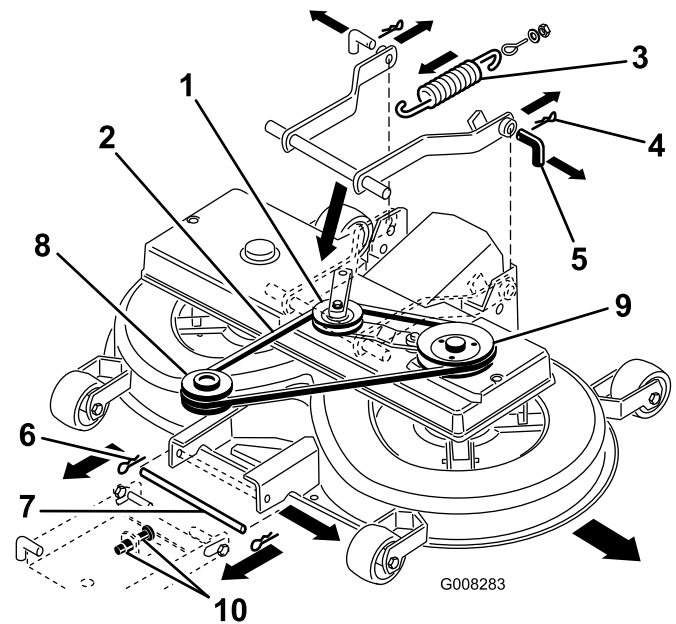

Figure 43
8. Pull the idler arm assembly in and remove the V-belt from the pulley (Figure 43).
9. Disconnect the spring from the engagement lever (Figure 43).
11. Remove the hairpin clips from the 2 rear pins and remove the pins (Figure 43).
12. Remove the hairpin clip from the front pin and remove the pin (Figure 43).
13. Remove the V-belt from the engine pulley (Figure 43).
7. Move the lower pin of the front adjustment suspension into the bottom position of the slotted holes by adjusting the 2 nuts (M12) on the front suspension (Figure 43).